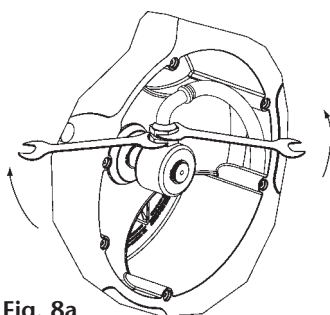
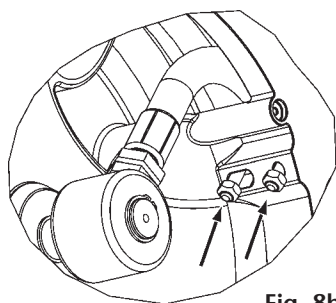

Fig. 8a
Fig. 8b
- Fix the hose to the swivel as indicated in figure 8a and fix the U bolt as shown in figure 8b
- Disconnect the hose as seen (Fig 8a). Release the hose from the disk by removing the clamp (Fig 8b).
- Desconectar la manguera usada según se indica en la imagen (fig. 8a) y liberar la manguera del disco retirando el abarcón de fijación manguera (fig. 8b).